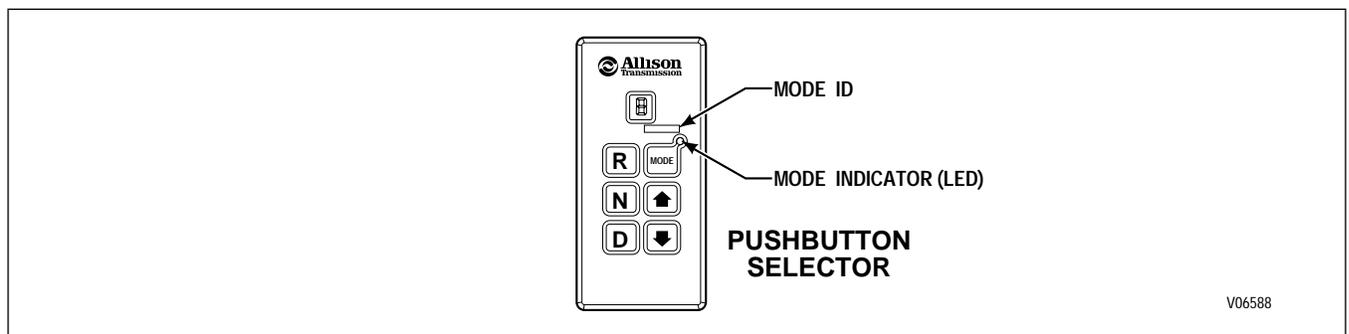

Figure 1-4. Pushbutton Shift Selector
A. Pushbutton Shift Selector (Figure 1-4)